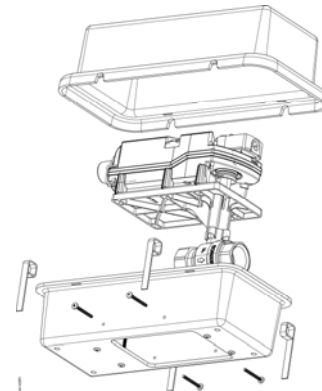

Figure 1.
2. Insert valve through the opening in the bottom half of the weather shield. See Figure 1.
4. Secure the weather shield in place by driving the four weather shield retention screws fully into the sides of the bottom half of the weather shield while holding it up against the bottom of the ball valve bracket. See Figure 1.